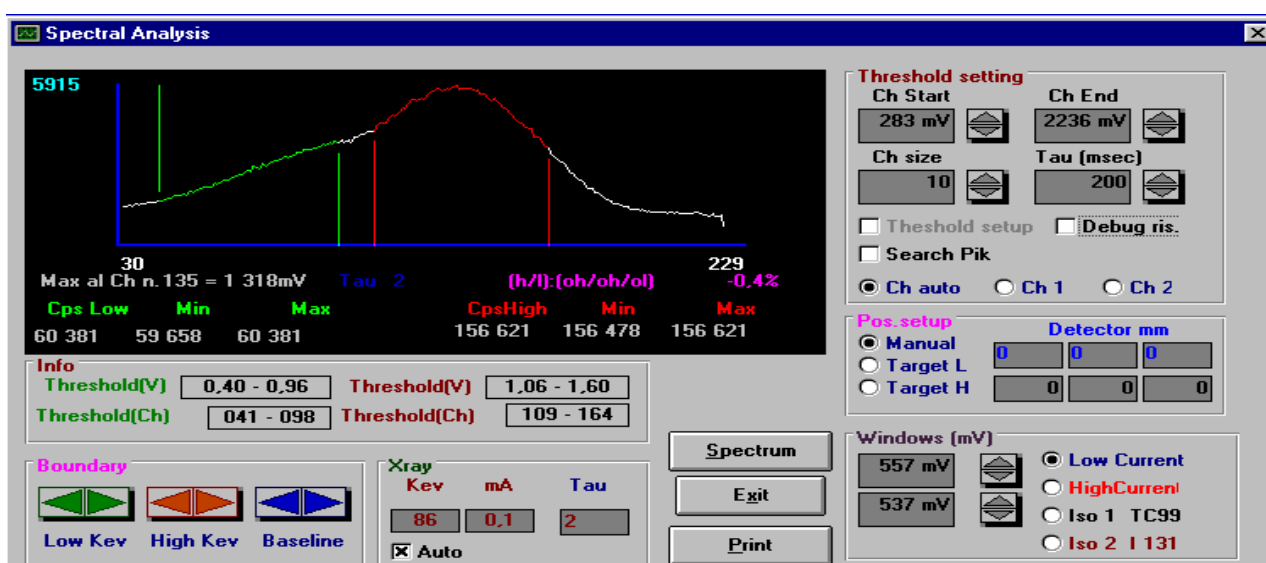

Figure IV-12 : Spectral Analysis Window
4. Modify the values “Threshold (V)” in the “Info” window to obtain those given in Figure IV-12. (0.40 – 0.96 / 1.06 – 1.60).
11. Click on [Spectrum] to obtain the curve as in Figure IV-12 again.